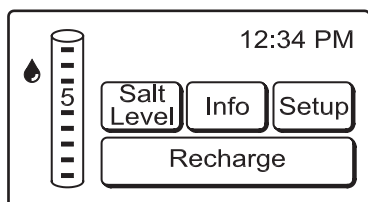
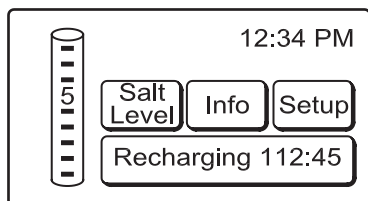
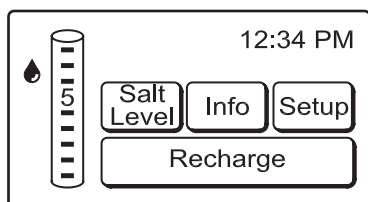

FIG. 29
FIG. 32
FIG. 37
The long button at the bottom of the softener status screen (See Figure 29) will show recharge status, including whether a recharge is scheduled (See Figure 37). During a recharge cycle, a countdown clock is displayed in the button (See Figure 32).
1. Press the RECHARGE button at the bottom of the softener status screen (See Figure 29).
1. Press the RECHARGE button at the bottom of the softener status screen (See Figure 37).